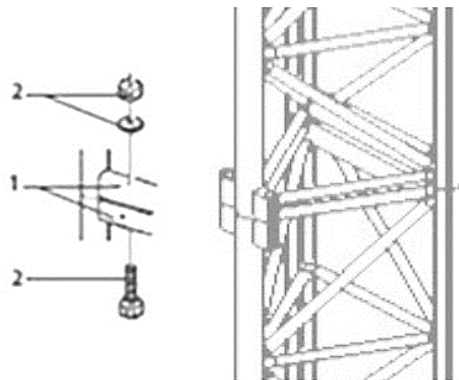

Figure 6.14
- You are advised to insert the bolts between two masts starting from the lower part and moving upwards as shown in Figure 6.14 so that, in an unfortunate instance of a nut becoming loose, the bolt can fall, making it clear that it is missing during a subsequent inspection. It is certainly more evident and visible, even at a glance, if the entire bolt is missing as opposed to only the nut.